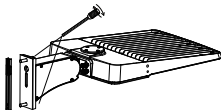

Figure 2-1
Step1: Loosen the screws on the bracket with a screwdriver and take off the bracket, Figure 2-1;